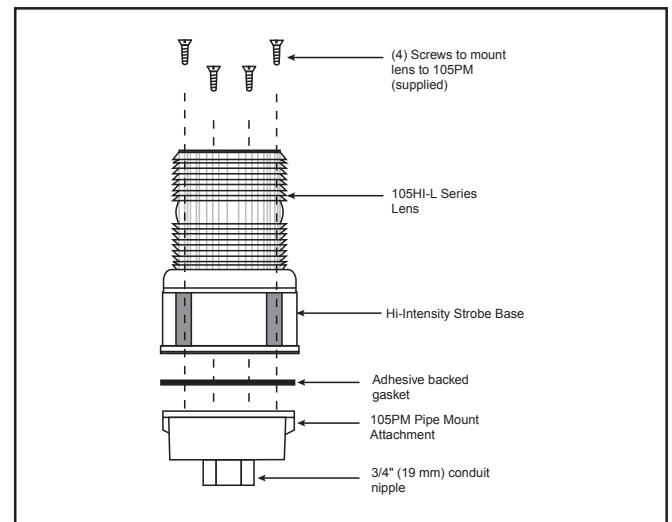

Figure 3. Securing the 105DHIST Series Beacon to the 105PM Pipe Mount Attachment
5. Secure the high intensity strobe base to the appropriate mounting attachment using four screws (supplied) as shown in Figure 3.